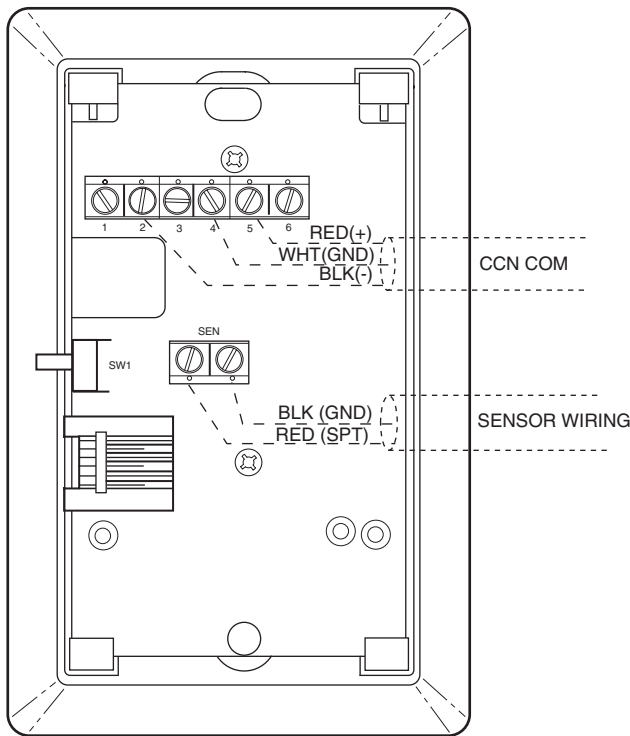

Fig. 12 — Space Temperature Sensor Wiring (33ZCT55SPT)
- The CCN network service jack requires a separate, shielded CCN communication cable. Always use separate cables for CCN communication and sensor wiring. (Refer to Fig. 12 for wire terminations.)
Wiring the Space Temperature Sensor (33ZCT55SPT and 33ZCT56SPT) — To wire the sensor, perform the following (see Fig. 12 and 13):
Wiring the CCN Network Communication Service Jack — See Fig. 12, 13, and 14. To wire the service jack, perform the following: